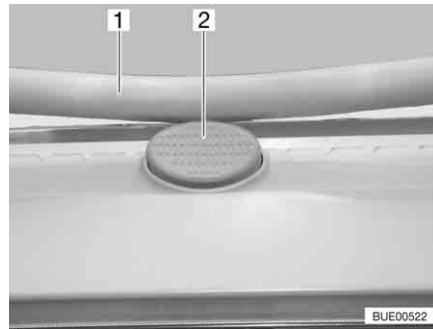

Fig. 60 Safety knob on the Heki skylight
- Press the safety knob (Fig. 60,2) and pull the bar (Fig. 60,1) down with both hands.
- Push the bar upwards with both hands until it is above the safety knob (Fig. 60,2).